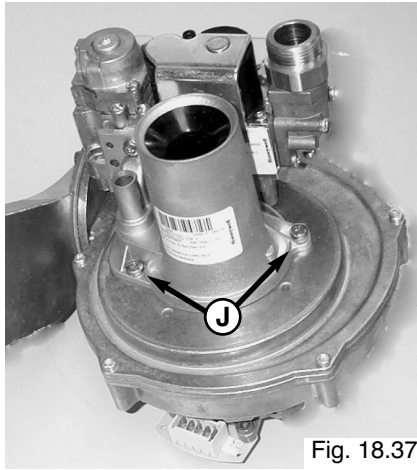

Fig. 18.37
3. Unscrew the two screws from the venturi "J" and remove with the gas valve (Fig. 18.37);